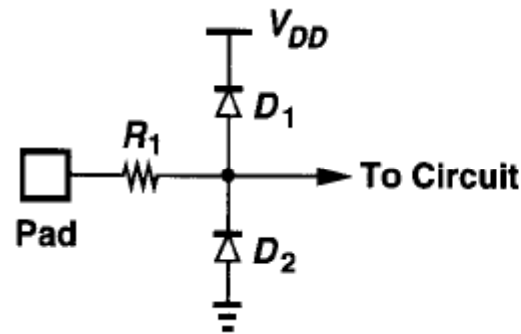

Figure 18.49 Simple ESD protection circuit.
- Fig. 18.49: Clamp external discharge to Vdd or gnd. Potential problems: degrading speed and impedance matching. Adding thermal noise via R1. Noise may be coupled through parasitics to the input. Latchup, if not properly designed.